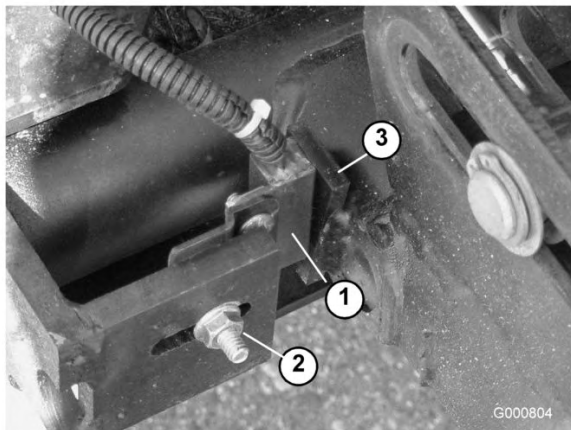

Figure 89
- Loosen the carriage bolt nut securing the lift arm switch bracket to the #4, 6 or 7 lift arms (Figure 89). #4 shown in figure.